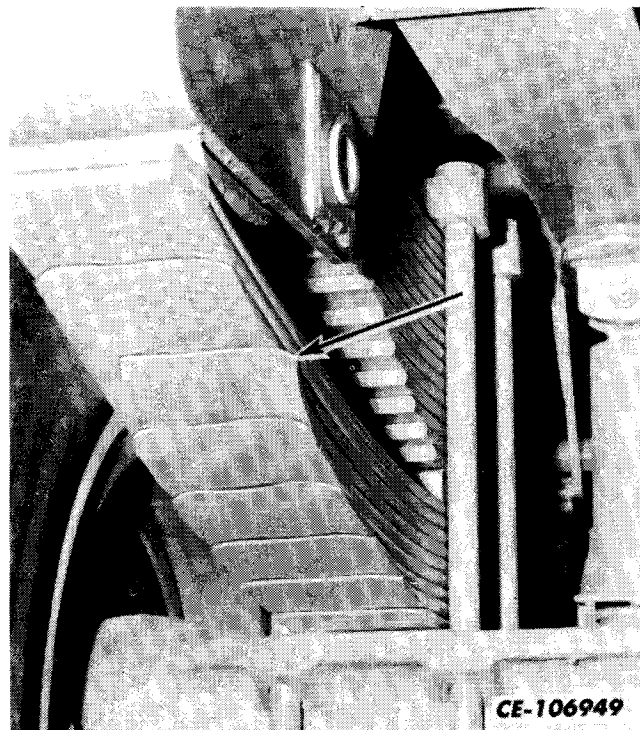

Fig. 7. Spring Leaf Misalignment (Rear Spring Shown)
- 13. Check spring leaf alignment (Fig. 7) and the torques of the spring cover nuts. Proceed as follows: